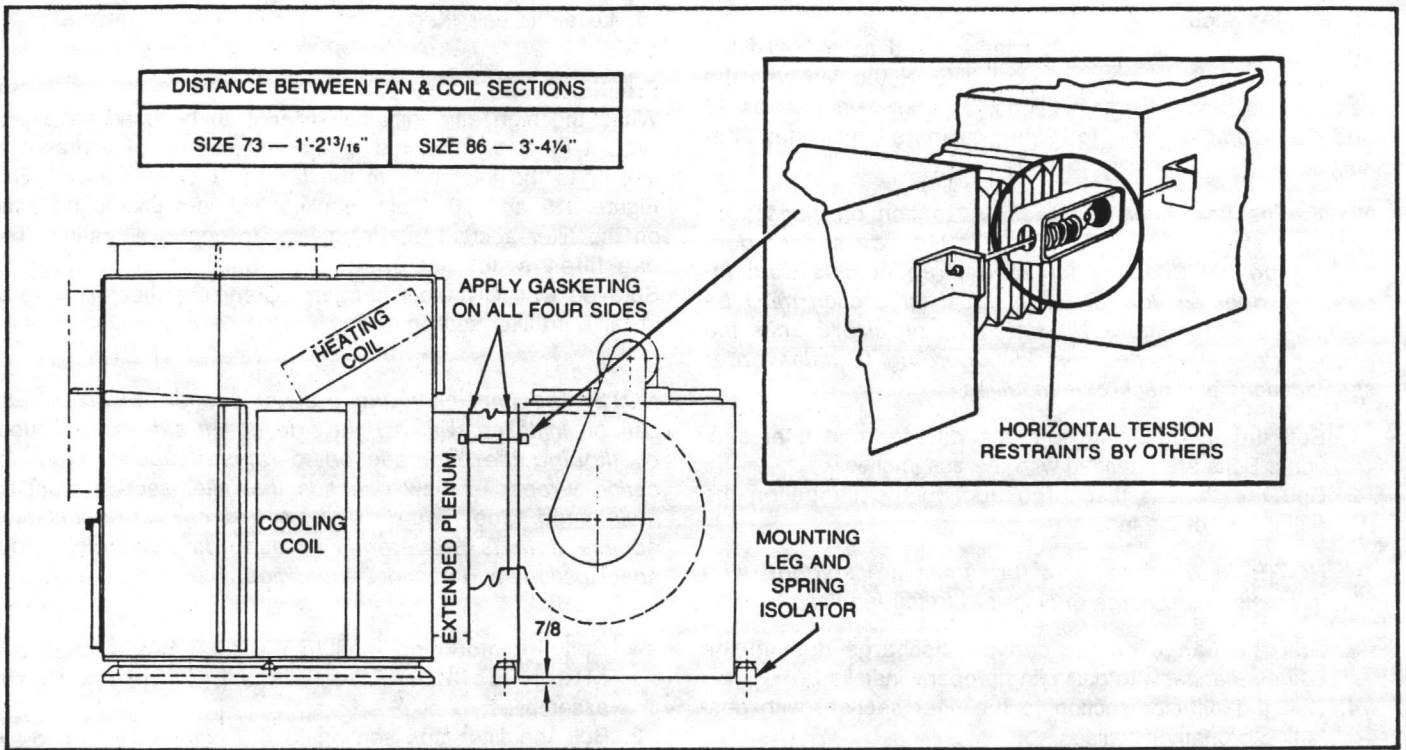

FIGURE 17 - Fan and Coil Section Ductwork Connections for Blow-Thru High Pressure Units
8. Attach inlet panel (size 73) or extended plenum (size 86) to coil section inlet with gasketing, factory provided. Bolting for these sections is accomplished from exterior of the unit. See Figure 17.
9. Attach flex connector between fan section and coil section (size 73). Attach flex connector between fan section and extended plenum coil section (size 86). Refer to Figure 17 for dimensions.
7. Blow-Thru Units — Attach horizontal tension restraints (installer-supplied) to the coil section. Span the flexible connection and anchor the restraints to the fan section. See Figure 17. These restraints will counteract reaction forces due to airflow and will relieve pressure from the flexible connection.